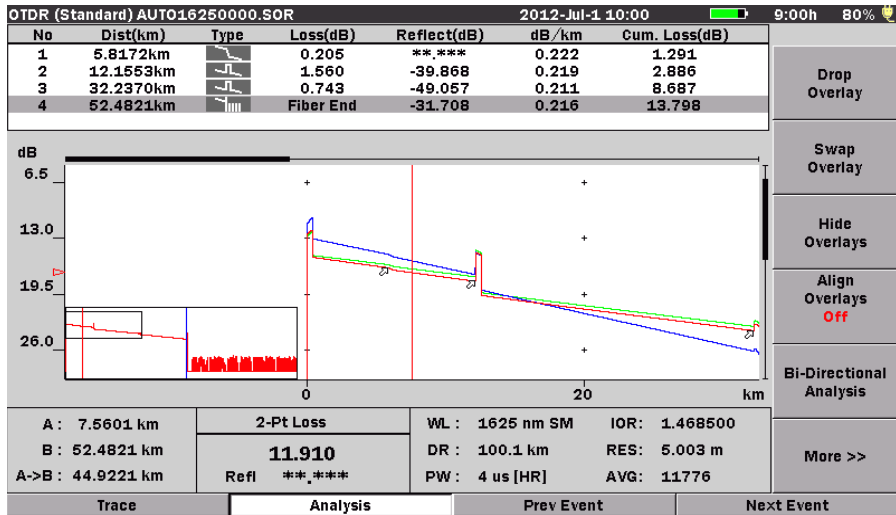

Figure 4-30: Trace Screen with Trace Overlay Softkeys
The Hide Overlays softkey is only available when there are overlay traces currently displayed, as shown in Figure 4-30 on page 4-84.
- **Align Overlays On** – When **Align Overlay** is toggled to **On**, all currently displayed Overlay traces are aligned to the same point on the screen as that of the intersection of the Primary trace and the cursor. See Figure 4-30 on page 4-84.